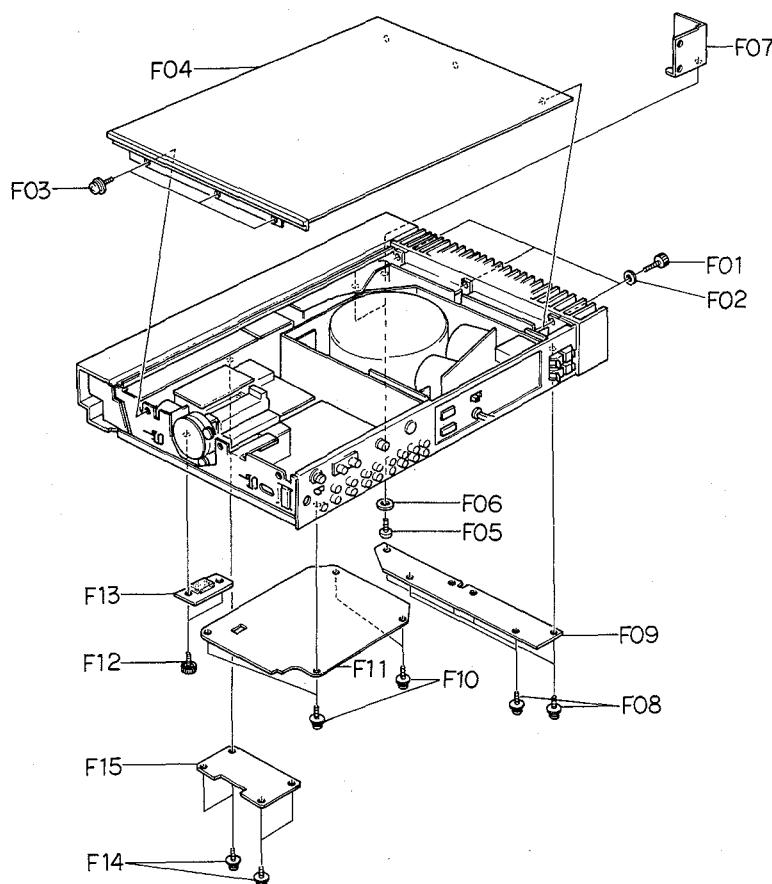

Fig. 3.2
Refer to Fig. 3.2. Remove Side Panel R referring to item 3.1.